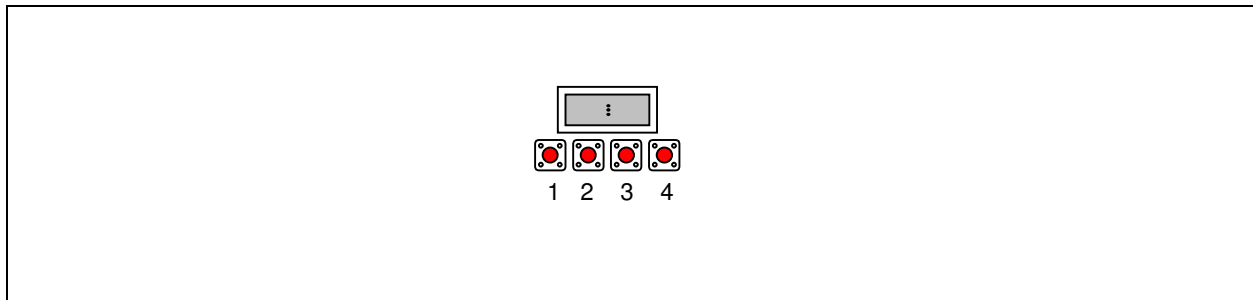

Figure 5: Key pad numbering.
*(Refer to figure 5, page 5 for key pad numbering).